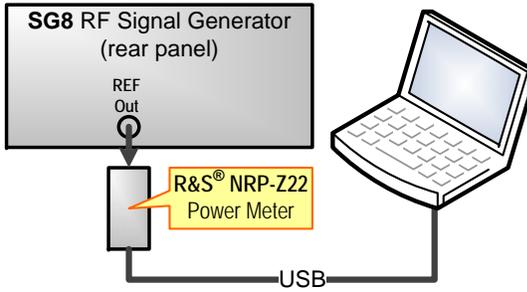

Figure 8: REF Out level test setup
1. Connect the instruments as shown in figure 8.